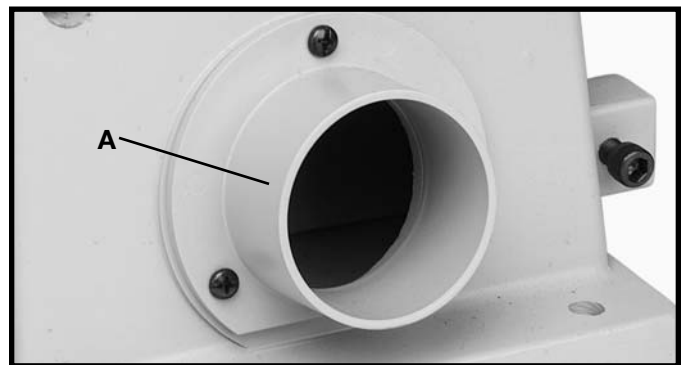

Fig. 38
A dust chute (A) Fig. 38, is supplied with your sander and can be connected to a standard shop vacuum hose. The outside diameter of the opening of the dust spout is 2-1/2 inches.